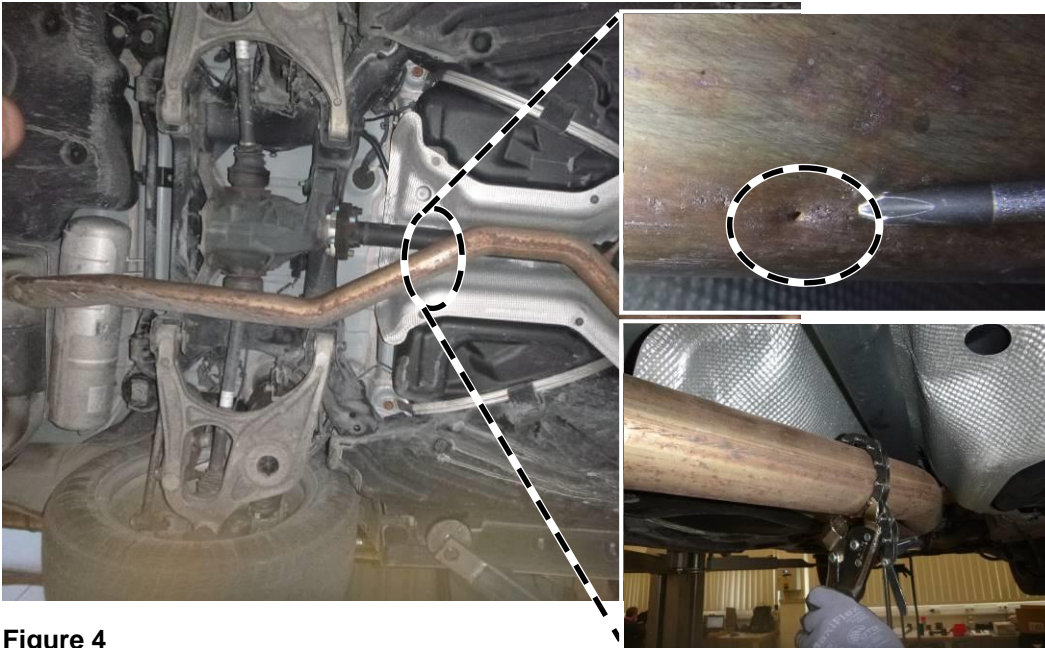

Figure 4
4. Using a chain pipe cutter, cut off the exhaust system tailpipe at a right angle to the muffler at the separating point that is marked by the stamped-in notch (**figure 4**).